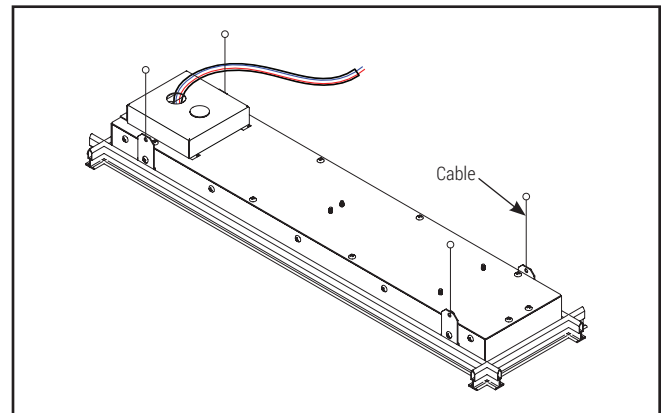

Figure 8.
11. Connect Wire\Cable with EQ clip to secure fixture in the upper Plenum (Figure 8.)